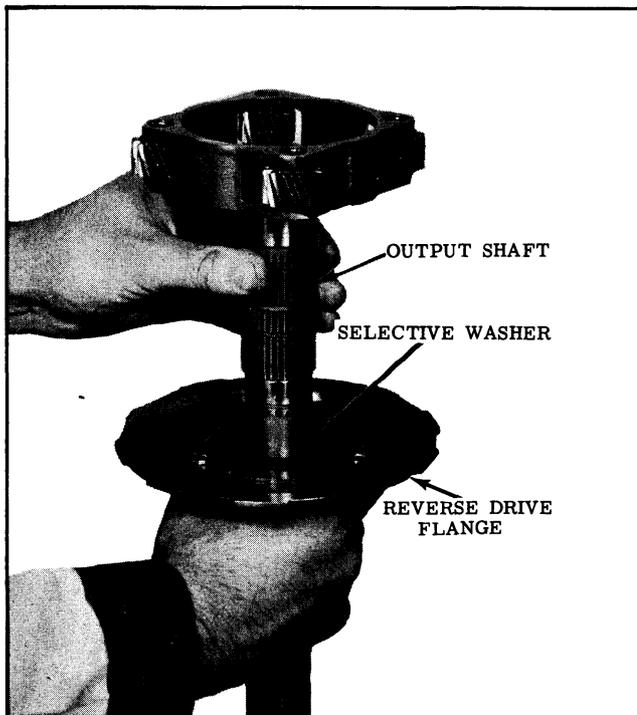

Fig. 3-69 Installing Reverse Drive Flange
- Install output shaft into the reverse drive flange (See Fig. 3-69), then invert the assembly on the bench while holding the flange against the planet carrier to prevent the washer from dropping out of place.